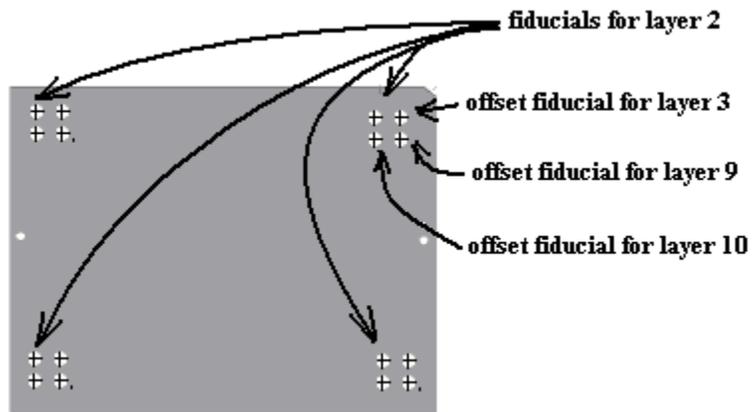

Figure 2: Sample layout for layer-specific fiducials shifting
9. For multi-layer stack-ups and drills, the fiducials should all be shifted from layer to layer, so that no two sets of fiducials are stacked atop each other. Layer-specific fiducials shifting helps us verify both the layer/side of the panel being drilled and the layer being aligned to, while reducing risk of operator error. For example, the fiducials for layer 2 should be in a different location than that of layer 3, or that of layers 14 and 15. See Figure 2 for an example layout.